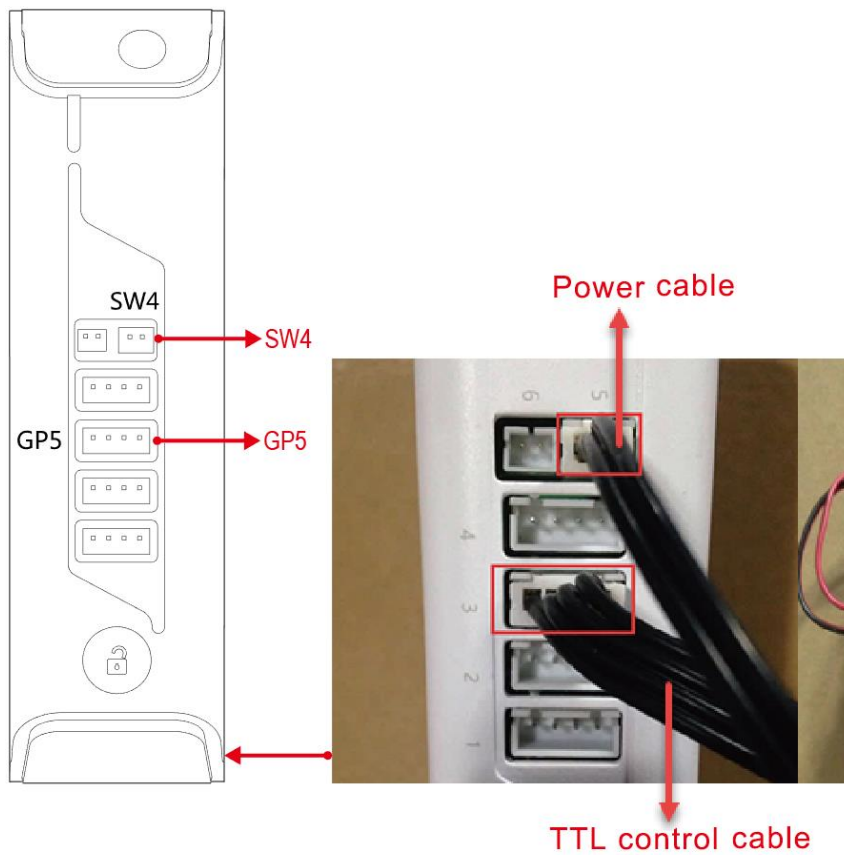

Figure 5.60 Connect the laser to the SW4 and GP5 connectors
Step 2 Connect the laser’s power cable to the **SW4** connector on the Forearm and the TTL control cable to the **GP5** connector, as shown in Figure 5.60.